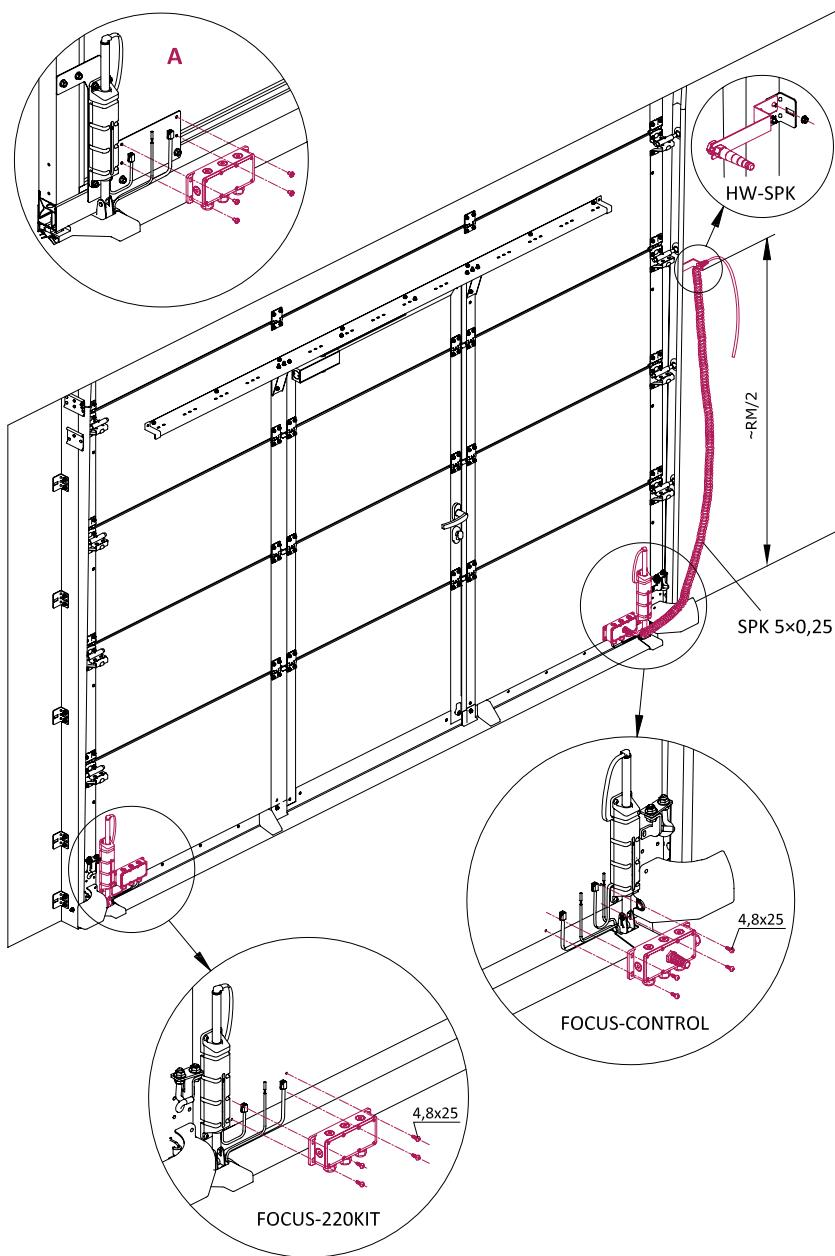

Fig. 2 — Installation of **FOCUS-210** and **FOCUS-220KIT**
- Install the boxes of **FOCUS-210 (FOCUS-CONTROL)** and **FOCUS-220KIT** (*fig. 2*) on the door leaf made of sandwich panels, using 4.8×25 screws (8 pieces are included in the door delivery kit). There are two premade holes in the door leaf that determine the location of the boxes.
If the bottom door section is panoramic, the boxes are fixed to the preinstalled steel plates (*fig. 2, View A*) using M5×8 screws (8 pieces are included in the door delivery kit).
- Install the bracket **HW-SPK** (*fig. 2*) on the outside of the angle track profile not lower than half of the door opening height (approx. **RM/2**).
- Insert the short end of the **SPK 5×0.25** spiral cable (*fig. 2*) through the special cable entry of the **FOCUS-CONTROL** box, and insert the long end through the cable entry of the **HW-SPK** bracket.